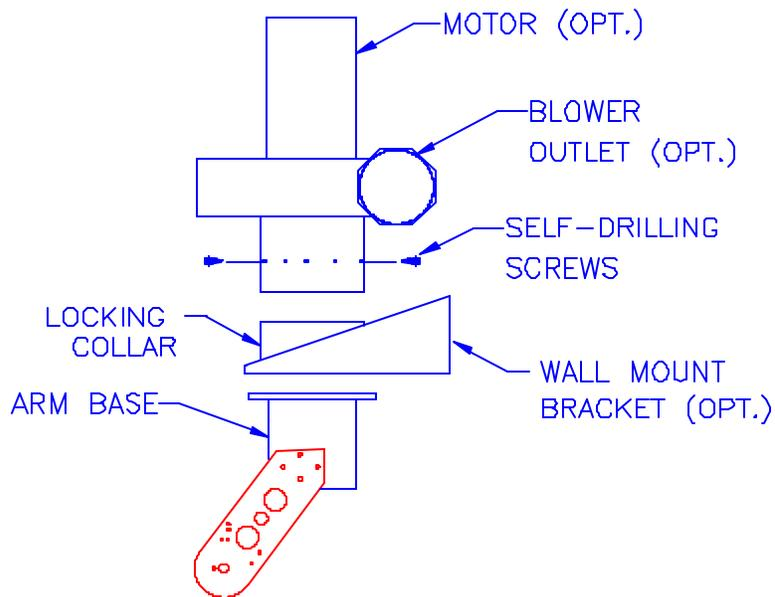

Figure 5.
Figure 5 shows general details of the motor blower assembly onto the wall mounting bracket. Installation instructions are covered in the Inlet Silencer section below.
5. Installation for a motor/blower assembly without an inlet silencer is similar to the above procedure. Figure 5 on page 9 illustrates this configuration.